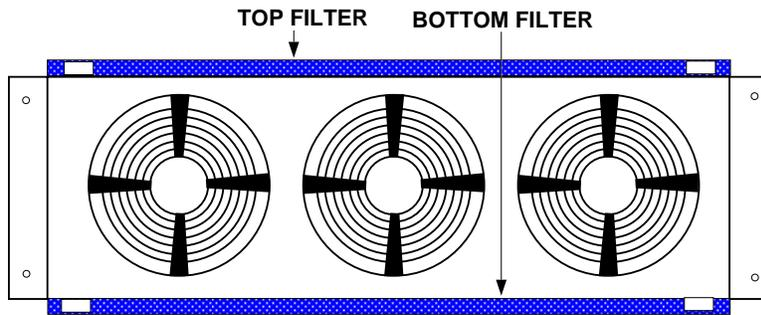

Figure 3. Location of Filters in Fan Unit
2. Slide the fan filter, located at the top of the fan unit, out of the filter slot. (See Figure 3.)
5. Slide the fan filter, located at the bottom of the fan unit, out of the filter slot. (See Figure 3.)